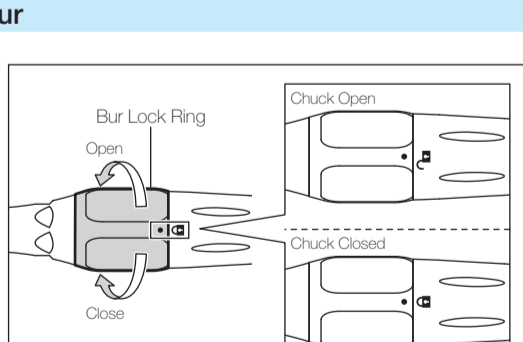

Fig. 2
- 1) Turn the Bur Lock Ring in the direction of the "⌘" mark until it clicks. (Fig. 2)
- 2) Turn the Bur Lock Ring to the OPEN position. (Fig. 2)